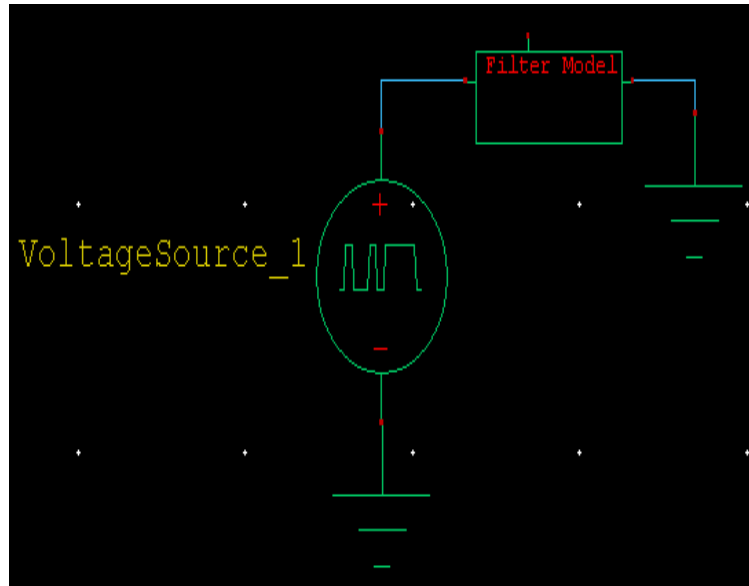

Figure 127: Wired instance
- ☑ Connect the ground pin to the output of the filter model (right node), as shown in (Figure 127).